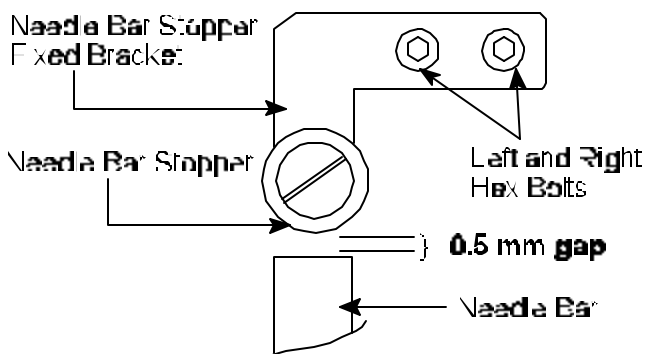

Figure 9
26. Take a business card width (0.5 mm), place between *white* roller and top of Needle Bar Assembly then secure hex bolts. See *Figure 9*.